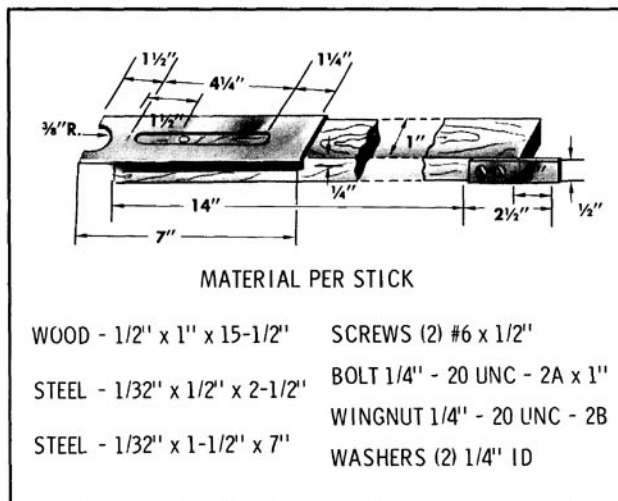

Fig. 16-437 Spacer Stick Dimension
17. Spacer stick may be fabricated as shown in Fig. 16-437.